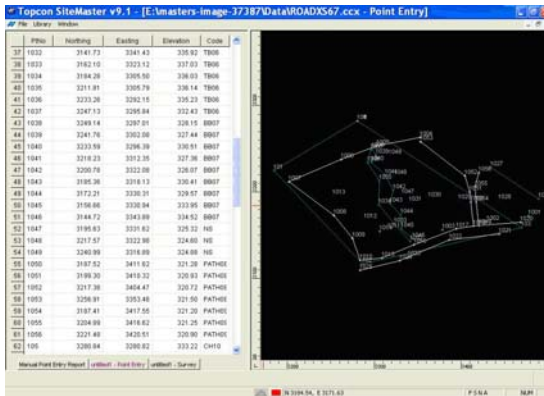

Figure 12-8. Coordinated Points Entry
7. In the *Point Coordinate Entry* dialog box (Figure 12-8 on page 12-8), enter the coordinates, height, and point code for each point. If the point field is left empty, MAGNET Office automatically allocates the next available point number when the data is saved. For column descriptions, see Table 12-1 on page 12-8.